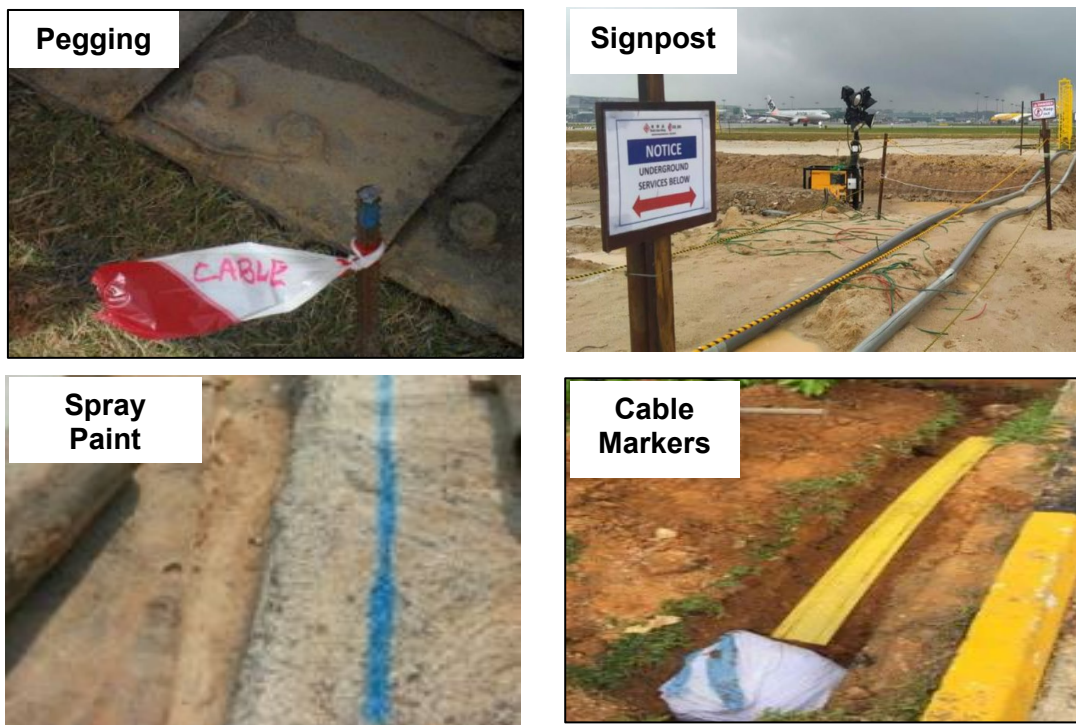

Figure 1: Samples of underground service markings
- (c) physically mark out the locations and routes of all the stakeholders’ underground installation throughout the entire vicinity of the proposed earthworks with using suitable methods such as surface markers, pegs, barricades, spray paint and signposts, or any method approved by CAG, to alert all contractors and personnel at the work site to the presence of the cables. (Samples of such markers are shown in Figure 1 below);